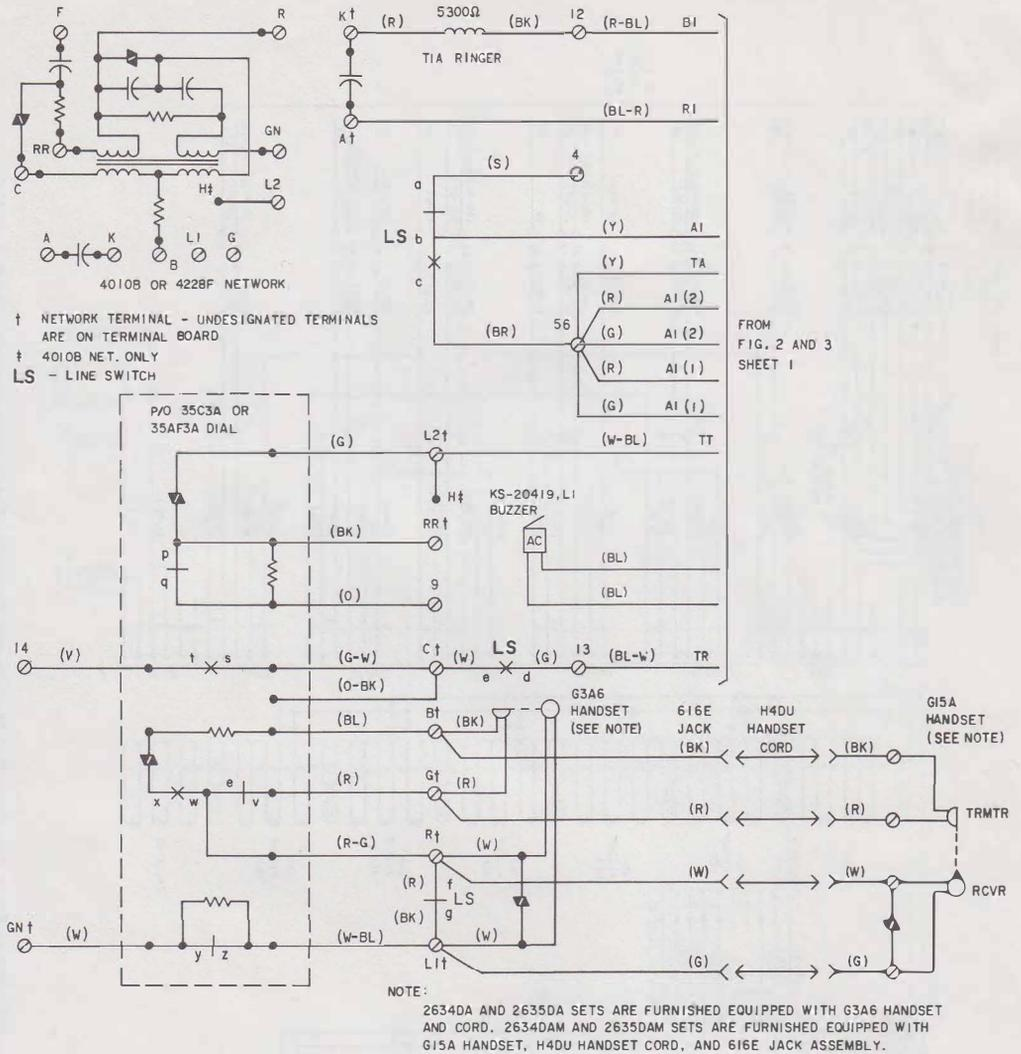

Fig. 1—2634DA or DAM and 2635DA or DAM Telephone Set Connections
**1.03** Current nonmodular 2634DA and 2635DA telephone sets are furnished from the factory equipped with a G3A6 handset and cord. Modular 2634DAM and 2635DAM telephone sets are equipped with a G15A handset H4DU handset cord, and 616E jack assembly (Fig. 1).